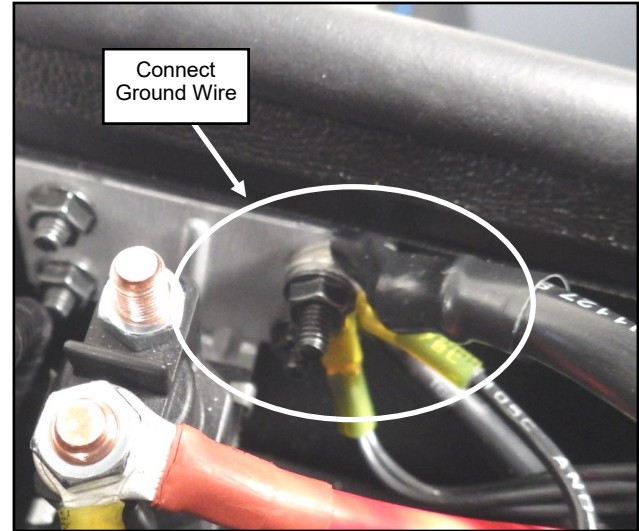

Fig. 2.6 (Connect ground to A/C Unit)
- 2.6** Inside the A/C Unit, remove the nut securing the ground wires to the solenoid mounting plate. Next, install the Power Supply Wire Harness' black ground wire onto the bolt, re-install the nut, but leave loose as shown in fig. 2.6.